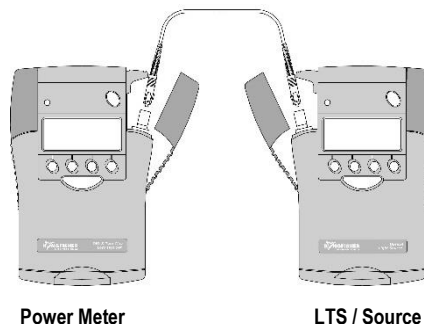

Figure 6. Test set-up for Output Power (CW) and Short Term Stability Tests
1. Connect the equipment as shown in Figure 6.
1. Connect the equipment as in Figure 6.